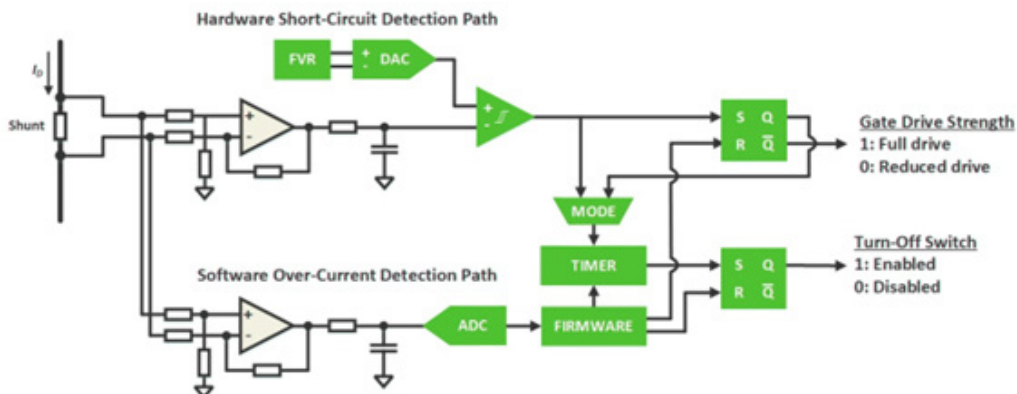

Figure 12: Short-circuit and overcurrent detection handled with MCU
**Figure 12** shows an example of short-circuit and overcurrent detection circuitry that can be handled almost entirely within an MCU. Microchip's 8-bit, 16-bit and 32-bit MCU devices have core independent peripherals (CIPs) that offer features that can be leveraged for these circuits, such as digital-to-analog converters (DACs), op-amps, comparators, fixed-voltage references, configurable logic cells and latches, to provide a highly integrated design.